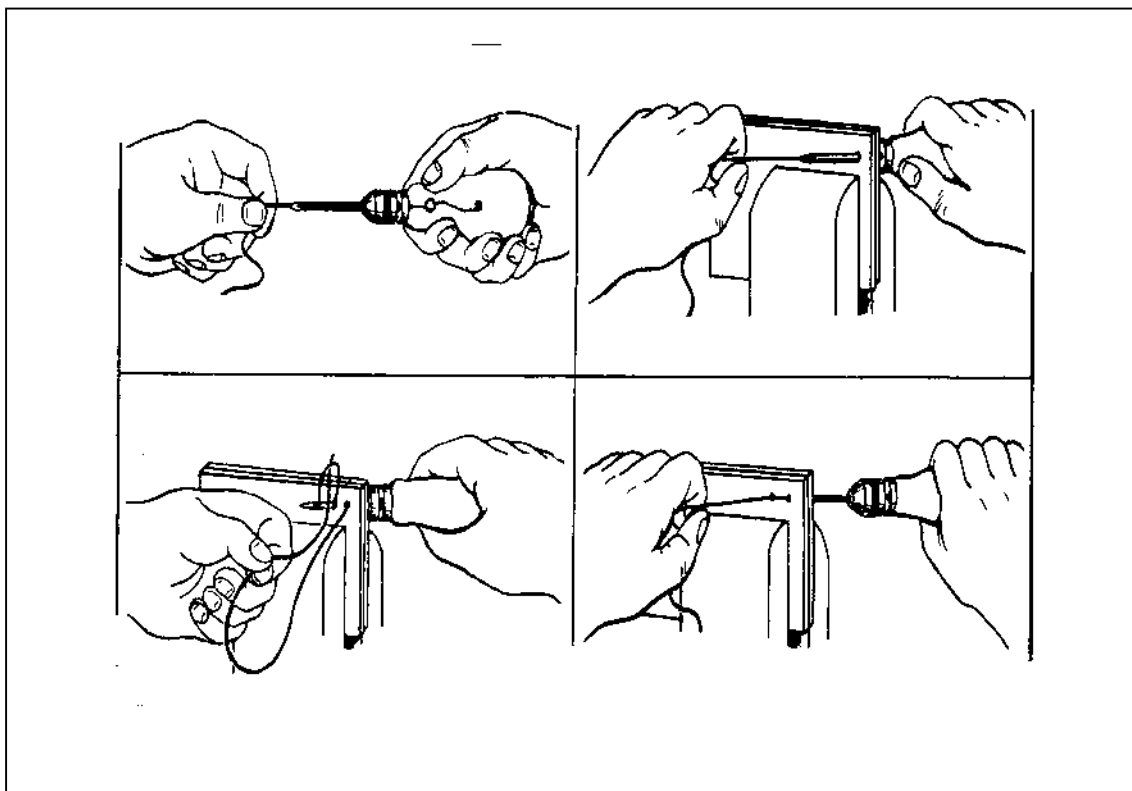

Figure 7-12. Lockstitch made with saddler's sewing awl
f. Lockstitch. The lockstitch (Figure 7-12) is used to hand stitch extra-heavy canvas or several thicknesses of canvas together permanently. To make a row of lockstitches--
- (1) Thread a saddler's sewing awl, leaving 1/2 inch of thread sticking out of the needle.
- (2) Grasp the thread where it comes out of the hole in the handle. Pull enough thread out of the hole to reach from the beginning to the end of the area to be repaired. (Note: This thread is the bottom thread for the lockstitch row.)
- (3) Stick the needle down into the cloth at the beginning of the proposed stitch line.
- (4) With the needle still down in the cloth, grasp the end of the thread in the needle. Pull until all the slack thread has been drawn through the eye of the needle to the underside of the cloth.
- (5) Grasping the slack thread so that it cannot be pulled back through the cloth, pull the needle back out of the cloth.
- (6) Stick the needle down into the cloth, a stitch length away from the first hole.
- (7) Pull the needle out halfway, forming a loop on the underside with the thread.
(8) Stick the end of the slack thread through the loop, and pull all the slack thread through the loop.
(9) Grasp the slack thread firmly.
(10) Pull the needle all the way out of the cloth.